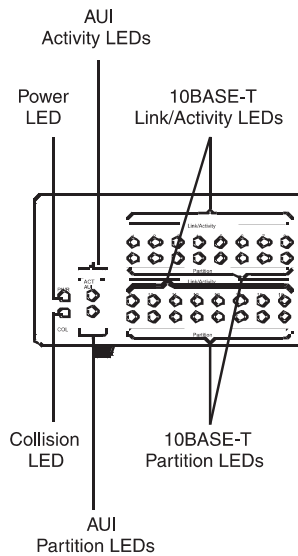

Figure 3-1. LEDs for the IBM 8242 Ethernet Desktop Hubs
- 2 Observe the LEDs on the front panel. Figure 3-1 on page 3-2 illustrates the LEDs. (See "Understanding the LEDs" on page 1-5 if you want to review the explanations of the LEDs before you continue with this troubleshooting process.)